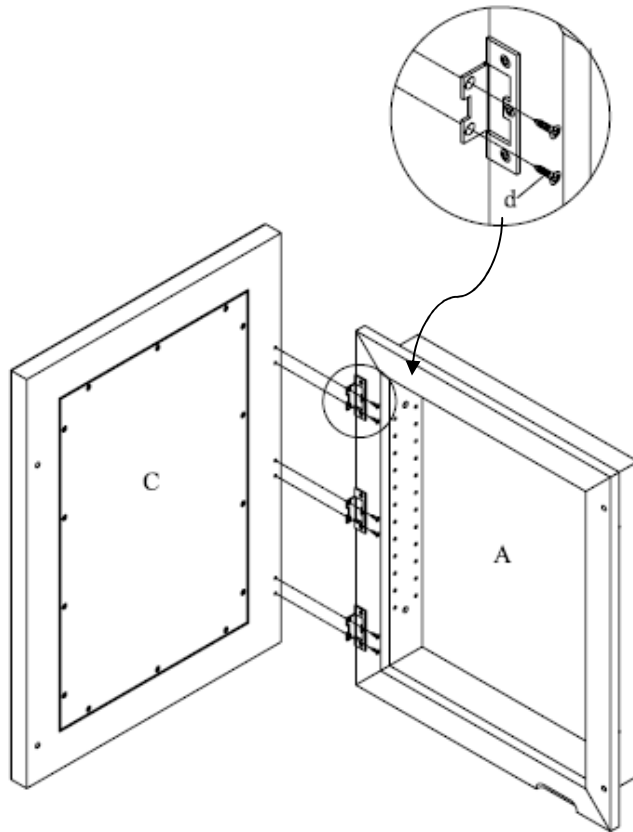

Figure 1
1. Attach the door panel (C) to the pre-assembled hinge of wooden cabinet (A) using wood screw (d). Securely tighten the screw with Phillips screwdriver, see **Figure 1**.